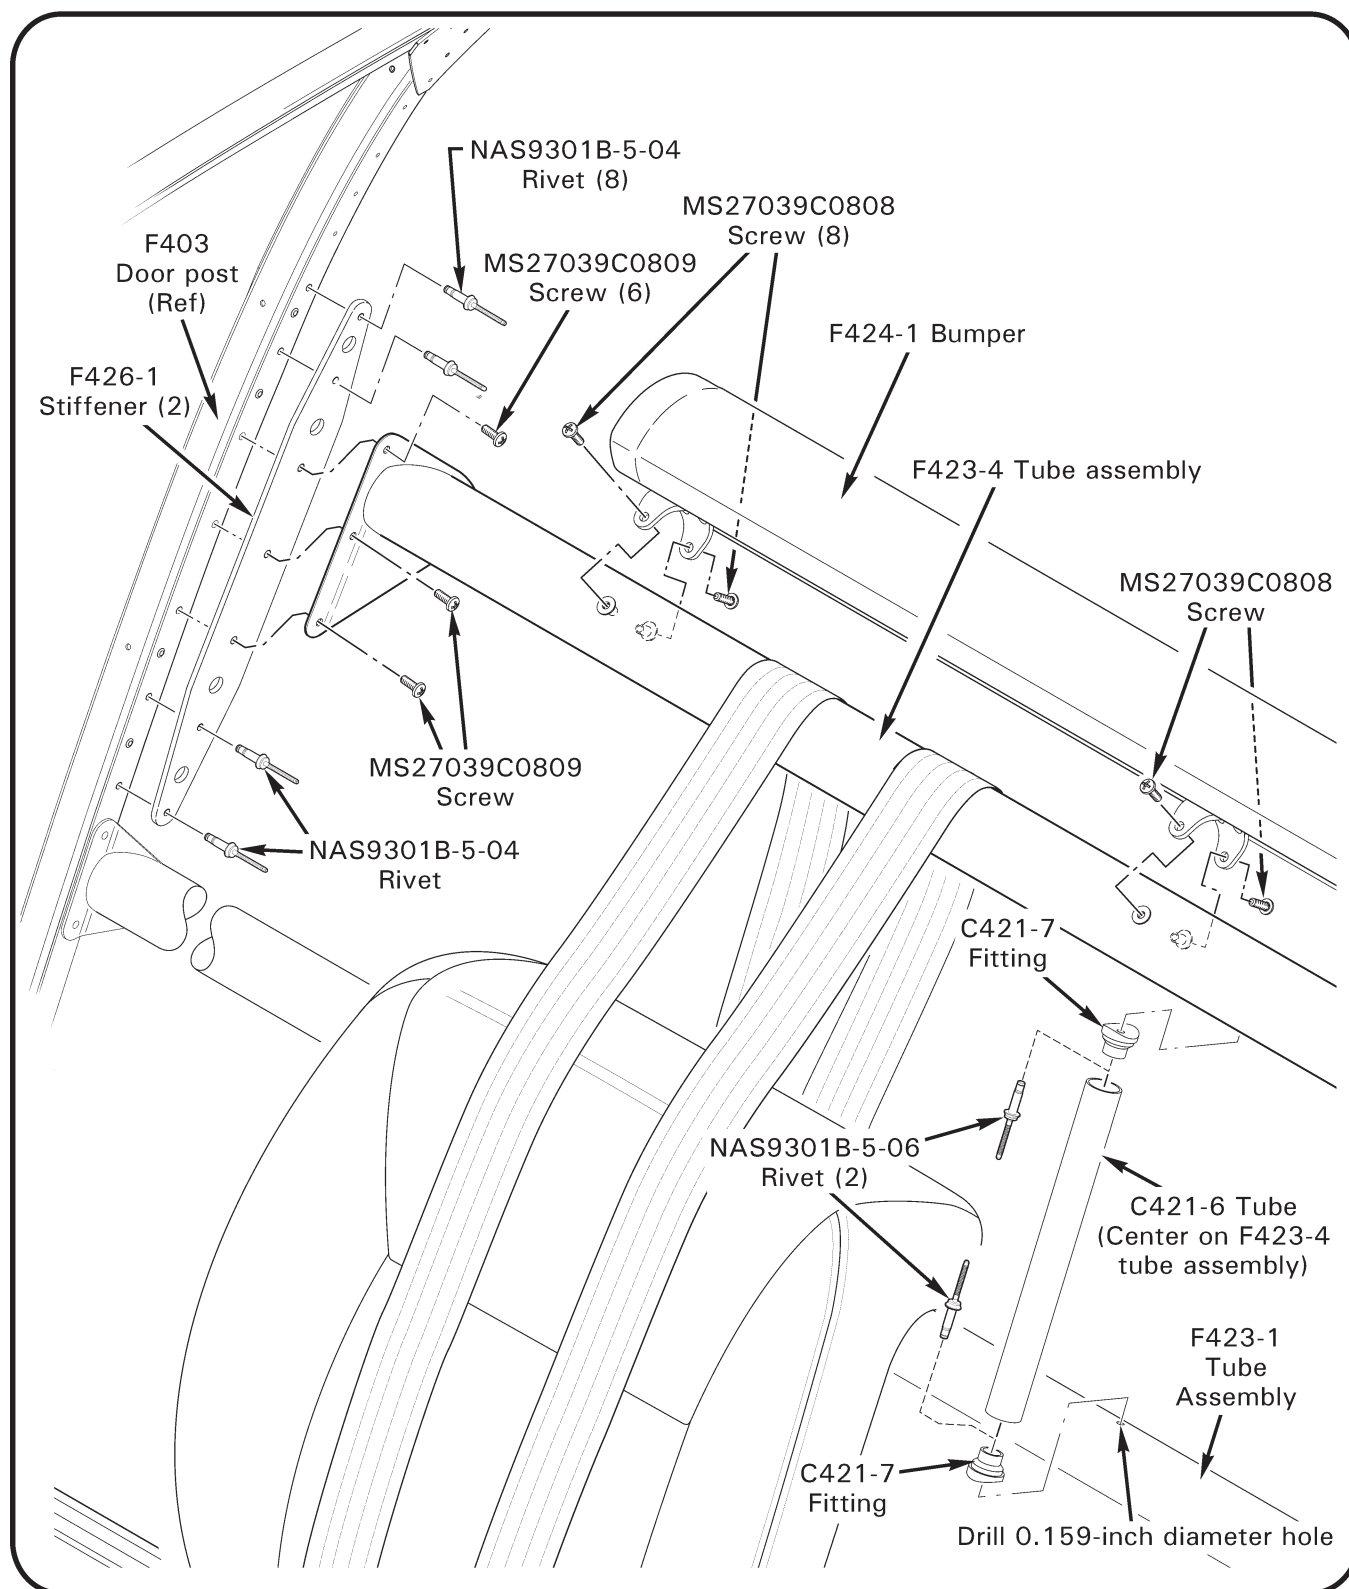

FIGURE 2
- a. Refer to Figure 2. Remove existing (3) MS27039C0807 screws in F403 door post where F423-4 tube is to be installed. Install F426-1 stiffener onto F403 door post using (3) MS27039C0809 screws. Verify rivet heads in door post are centered in stiffener clearance holes.
- b. Using F426-1 stiffener holes as pilot holes, match drill four 0.159-inch diameter holes in door post as shown. Deburr holes and clean up debris. Install (4) NAS9301B-5-04 rivets. Remove screws and verify stiffener security.
12. Refer to Figure 2. Drape harnesses over F423-4 tube, and install hardware securing F424-1 bumper to tube.